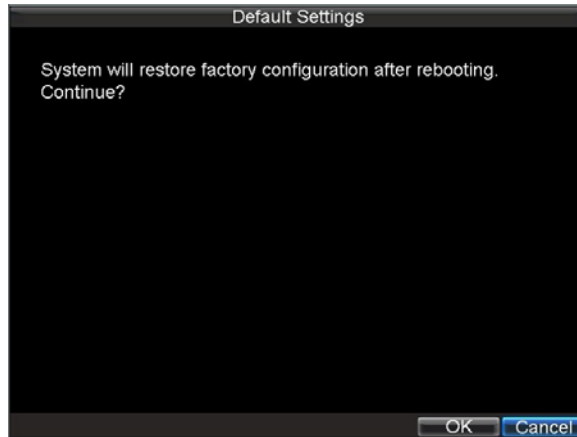

Figure13. Default Settings Menu
1. Click Menu > Maintenance > Default to enter the Default Settings menu, shown in Figure 13.